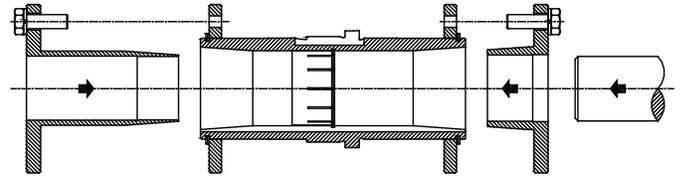

Figure 1 - Short Shaft Bushing Output Hub Assembly
1. One bushing assembly is required to mount the reducer on the driven shaft. An assembly consists of two tapered bushings, bushing screws and washers, two bushing backup plates and retaining rings, and necessary shaft key or keys. The driven shaft must extend through the full length of the reducer. If the driven shaft does not extend through the reducer do not use the standard tapered bushings; instead use the short shaft bushings as described in the Short Shaft Bushings section that follows. The minimum shaft length, as measured from the end of the shaft to the outer edge of the bushing flange (see Figure 1), is given in Table 2.
The minimum shaft length, as measured from the end of the shaft to the outer edge of the bushing flange (see Figure 1), is given in Table 2.